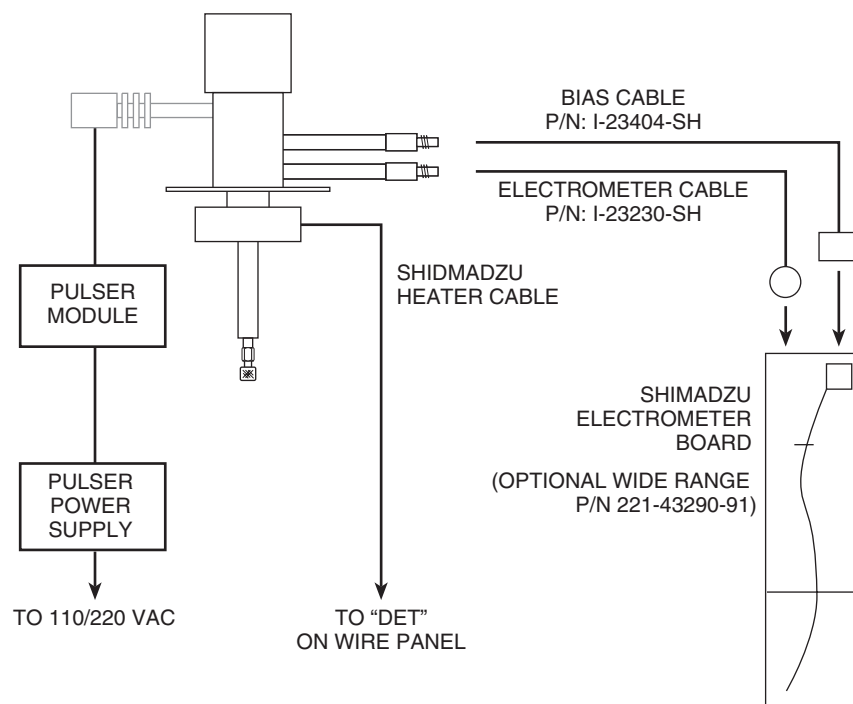

Figure 9: Schematic of electrical connections
1. Referring to **Figure 9** as necessary, connect the **BIAS** cable to the top electrode and the electrometer cable (**ELECT**) to the bottom electrode.